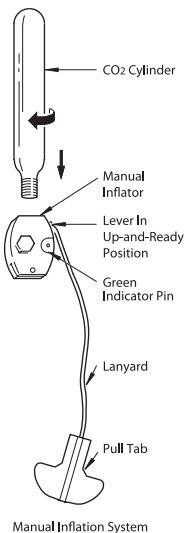

Fig. 1a
After purchasing your inflatable PFD, make sure it has an unused 33 gram CO₂ cylinder attached to the inflator mechanism (Fig. 1a).
- 3) Make sure the manual lever is in the up-and-ready position and insert the green indicator pin if not already in place. Make sure the CO₂ cylinder is screwed hand tight into the inflator (Fig. 1a).